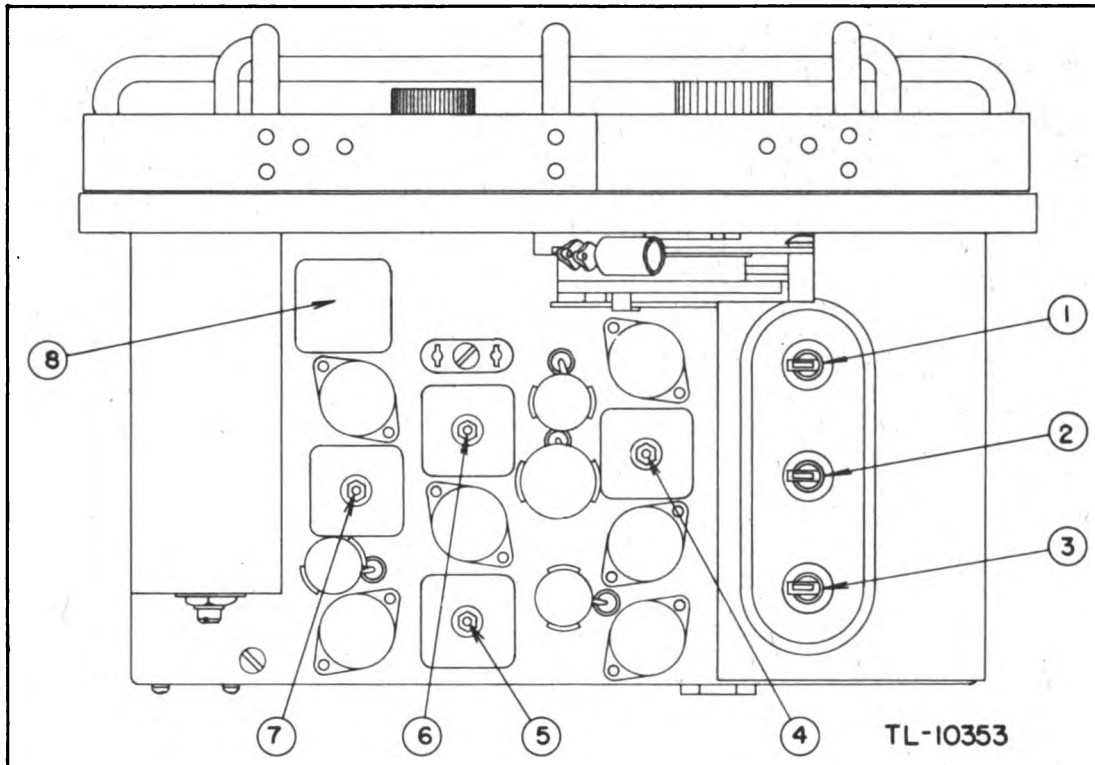

Figure 62—Alignment of Receiver of Radio Receiver and Transmitter BC-1036 and RT-12/TRC-2 (Top View)
(2) Adjust the oscillator trimmer, which is located on the section of the gang capacitor nearest the panel of the receiver (Fig. 62).
(3) Adjust the remaining trimmer capacitors on the tuning capacitor gang for maximum reading on the output meter. Be careful not to move the TUNING control.